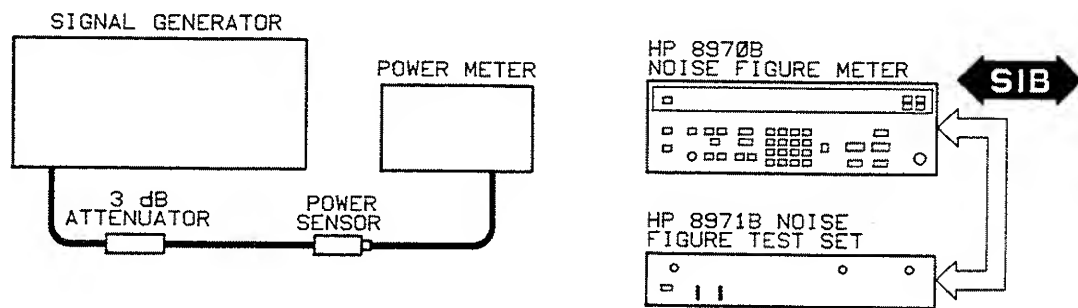

Figure 4-12. Gain Test Reference Setup SSB1
1. Connect equipment as shown in Figure 4-12.